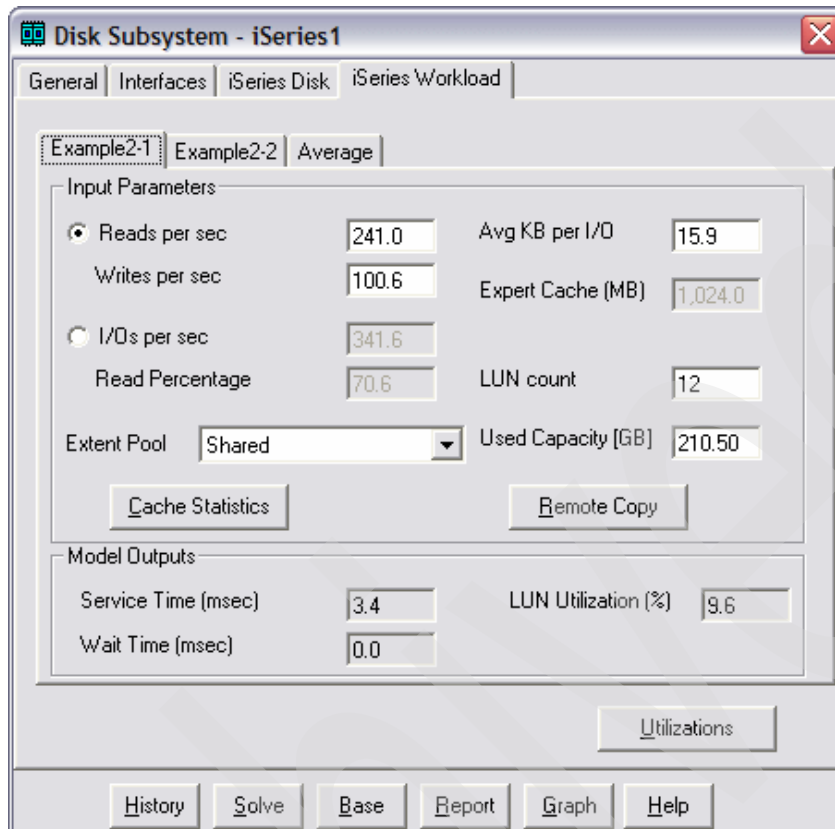

Figure 4-65 Modeled service time and wait time for the first workload
- I. Then, select the iSeries Workload tab. Click the tab with the name of the first workload. Notice the modeled disk service time and wait time, as shown in Figure 4-65.